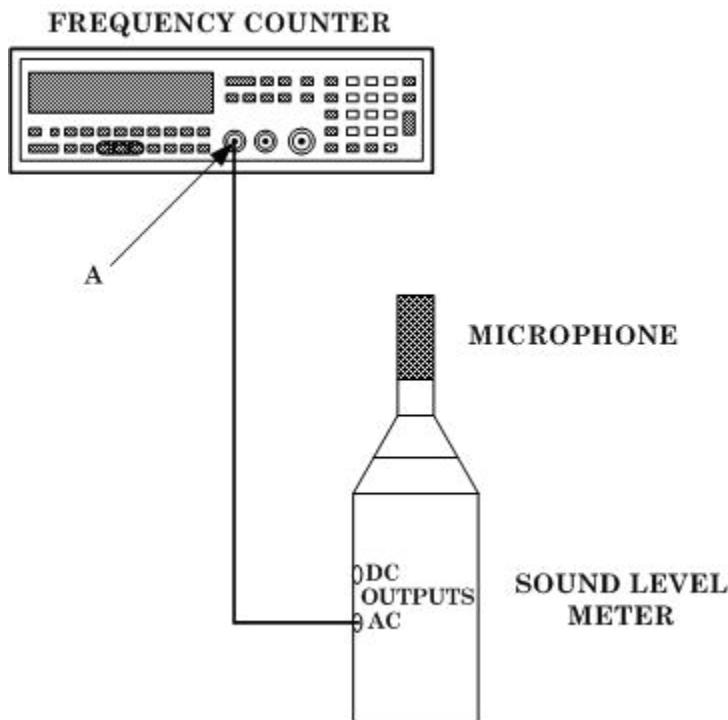

Figure 1. Sound level meter equipment.
- a.** Connect equipment as shown in figure 1.
- b.** Position sound level meter switches as listed in (1) through (4) below.
- (1) **WEIGHTING** switch (**A** or **C**) to **C**.
- (2) **dB RANGE** switch to **LOW (30-100 db)**.
- (3) **FAST/SLOW RESPONSE** switch to **SLOW**.
- (4) **RUN/HOLD/RESET** switch to **RUN**.
- b. Strike tuning fork sharply on the edge of wooden (or plastic) bench (or table) and hold approximately  $\frac{1}{4}$  inch over microphone (fig. 1) while observing frequency counter indication. Record frequency counter indication.